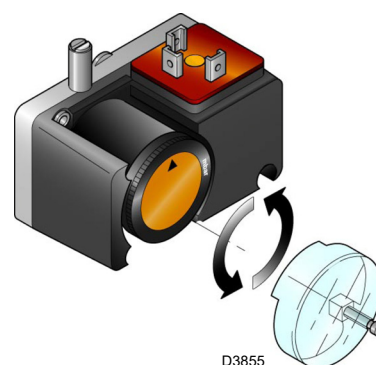

Fig. 33
- Adjust the minimum gas pressure switch (Fig. 33 at page 32) to the start of the scale.
Adjust the minimum gas pressure switch (Fig. 33) after having adjusted the burner, the gas valves and the gas train stabiliser. With the burner operating at maximum output: